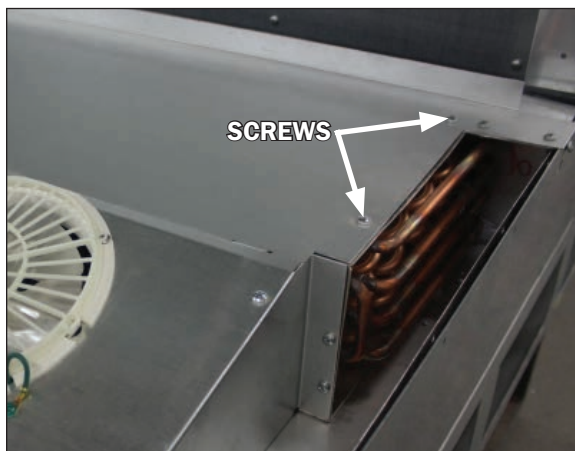

Fig. 25 Coil cover removal
2. Remove the top two screws at both ends of the coil cover (Fig. 25), as well as the screws from the top ends and front sill of the pressure plate cover (Fig. 22). **Be sure to save the removed screws for reassembly.**